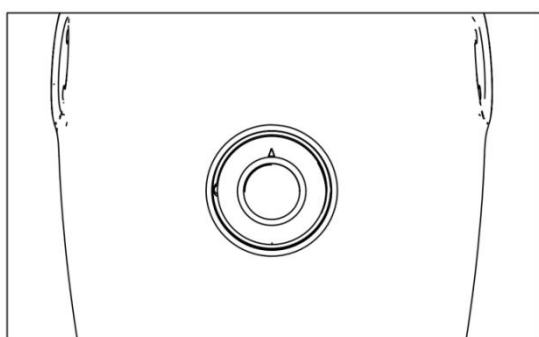

Figure 10
4.6. Opening method of fuel tank cap (Figure 10)